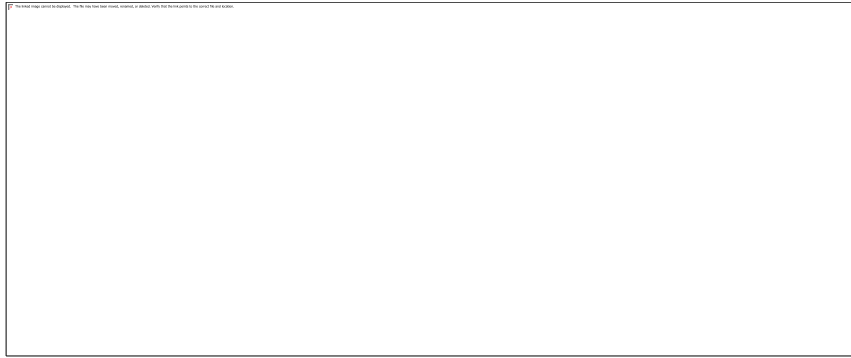

Figure 4-40
15. Because we selected “**User Defined**” for the “**Lateral Direction**” we now have to enter two points that define the lateral direction (this will be indicated in the bottom left of the status bar). **Right-click|Snaps|Endpoint** and click on the left top corner of the rectangle. Now you will notice that the status bar is asking for the 2nd point in the block lateral. **Right-click|Snaps|Endpoint** and click on the bottom left corner. Once this is completed the laterals are automatically drawn, with a submain at the top of the block and a central valve with a **5ft (1.5m)** stub, as in Figure 4-40.